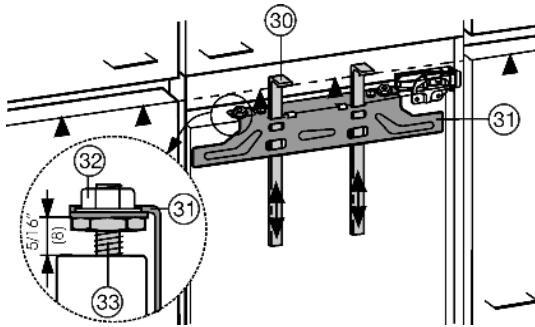

Fig. 21
The fitting aids Fig. 21 (30) are required for both doors. You must therefore fit the unit doors one after the other.
- ▶ Raise the fitting aids Fig. 21 (30) to the unit door height. Bottom stop edge ▲ of fitting aid = top edge of unit door to be fitted.